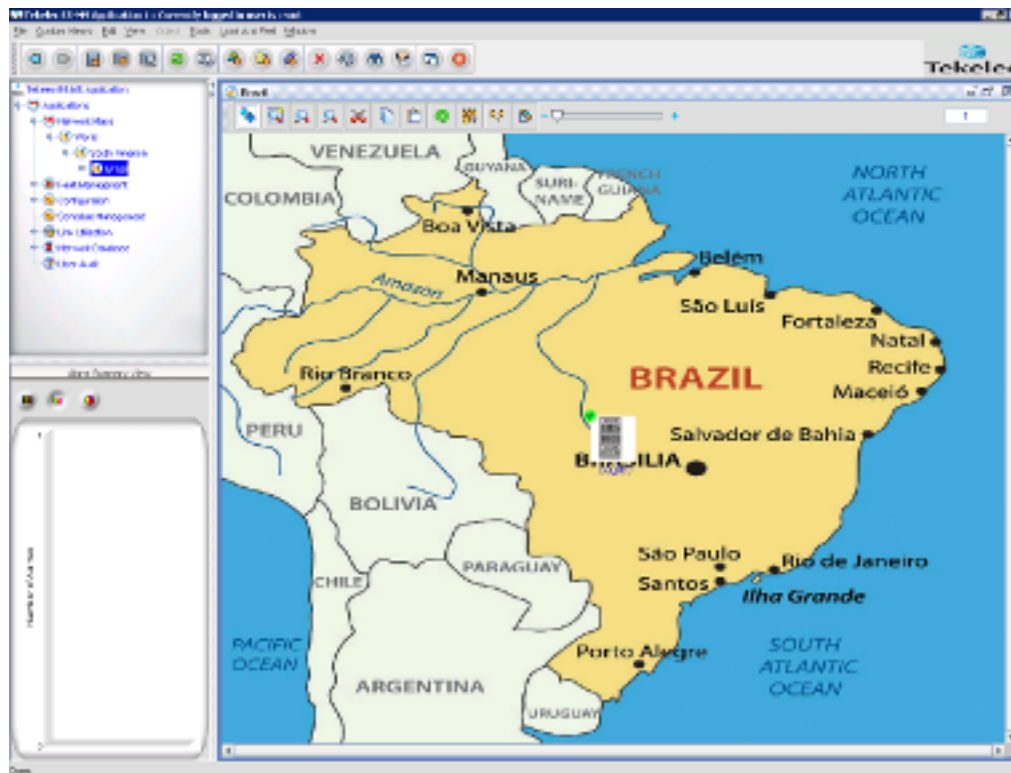

Figure 27: Country Level Map
- *Figure 27: Country Level Map*